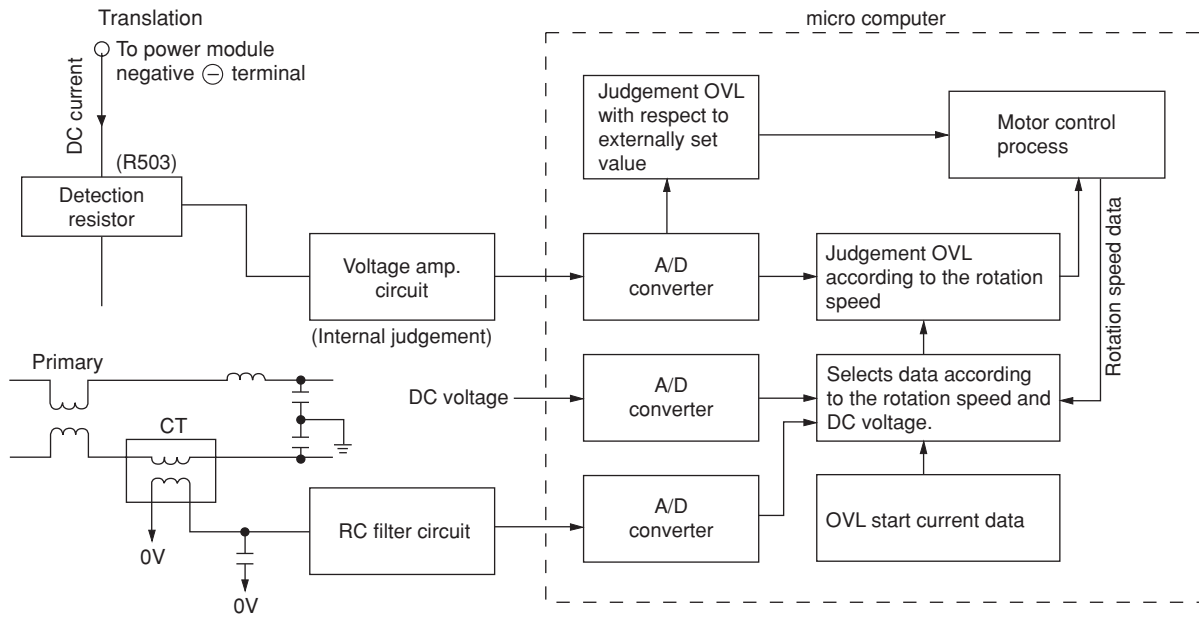
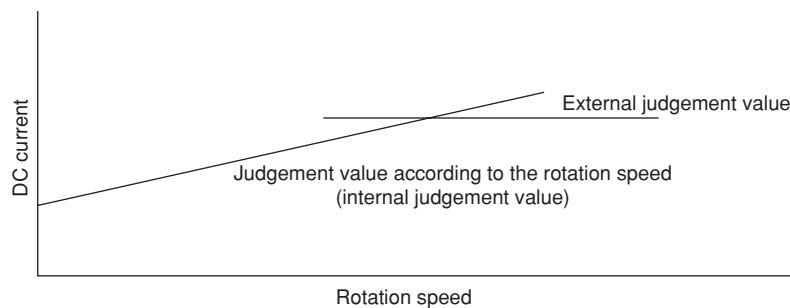

Fig. 6-1 Overload Control System Configuration
Fig. 6-2
- Fig. 6-1 shows the overload control system configuration and Fig. 6-2 is a characteristic diagram of overload judgement values. There are two judgement methods-external judgement which compares the externally set value with the DC current value regardless of the rotation speed and internal judgement which compares the set value that according to the rotation speed programmed in the micro computer software with the DC current value.